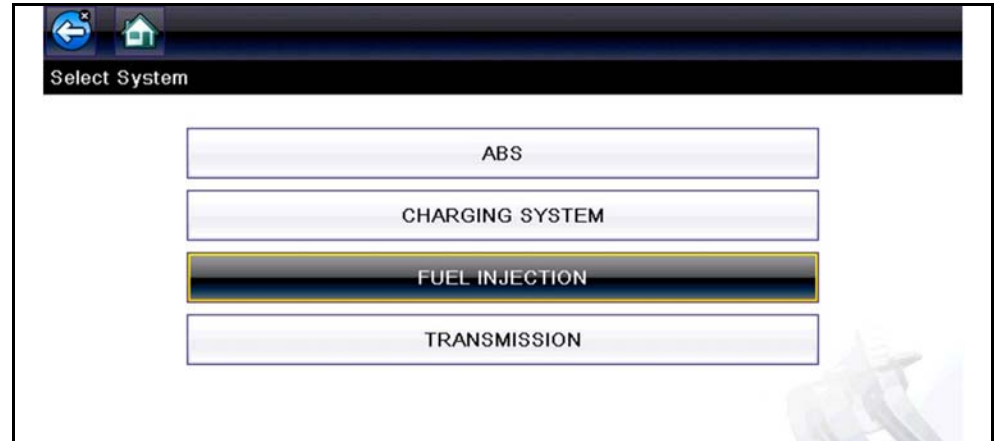

Figure 4-6 Systems Menu
1. Select a system from the list (*Figure 4-6*).